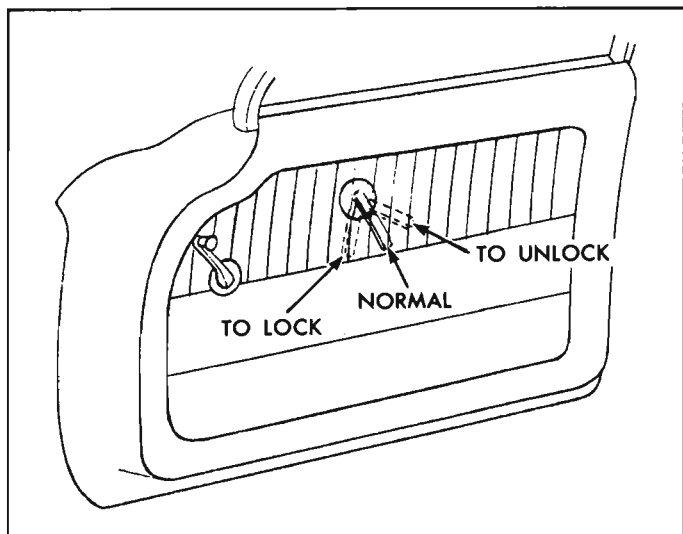

Fig. 10-58—Front Door Lock Remote Control Handle Positions
- To install, reverse removal procedure. Check all operations of lock assembly before installing inner panel water deflector (fig. 10-58).